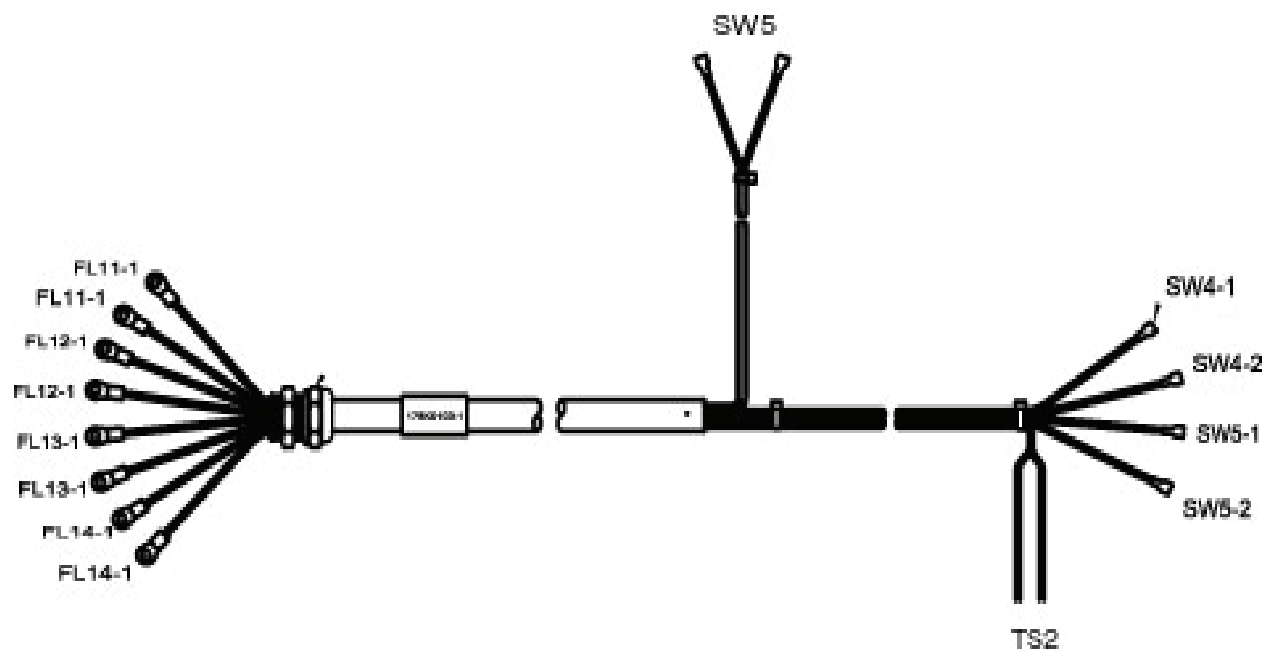

Figure 2. HARNESS ASSEMBLY
1. To remove P3 wiring harness (1), disconnect P3 connector plug at evaporator access box.
4. To remove J4 wiring harness (3), disconnect J4 from P4 connector plug.
7. Disconnect leads from terminals on SW4, SW5 and SW6. Cut wires from TS2. Remove harness (4). (See Figure 2).